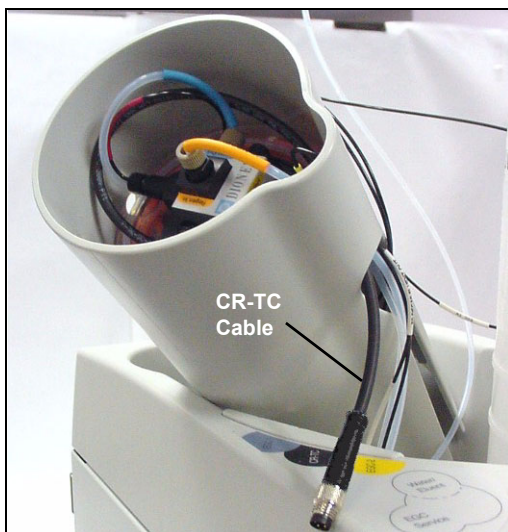

Figure 32. Installing the CR-TC
6. Feed the CR-TC cable through the slot on the side of the EGC holder (see Figure 32).